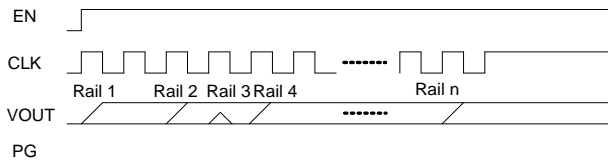

Figure 10: Soft Start during PMIC Error when CLK Does Not Pull Down (No CLK Pausing)
- If `CLK_ON_ERROR_PAUSE_EN = 0`, the initiator/target PMIC does not pull the CLK pin down, even if any error occurs during the soft start of any power rails (see Figure 10).